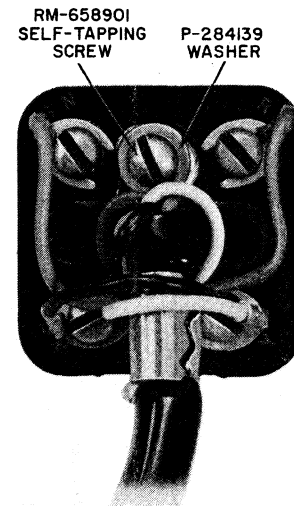

Fig. 13—D4BP Cord Terminated on 283B Plug
**Note:** An RM-658901 self-tapping screw and a P-284139 flat washer will be shipped with each 283B plug (Fig. 13).
(5) Bend cord spade tips and dress red and green conductors so they lie outside of the mounting screw hole guides (Fig. 13).
(6) Seat base of plug in cover before tightening screws. This prevents pinching of conductors.